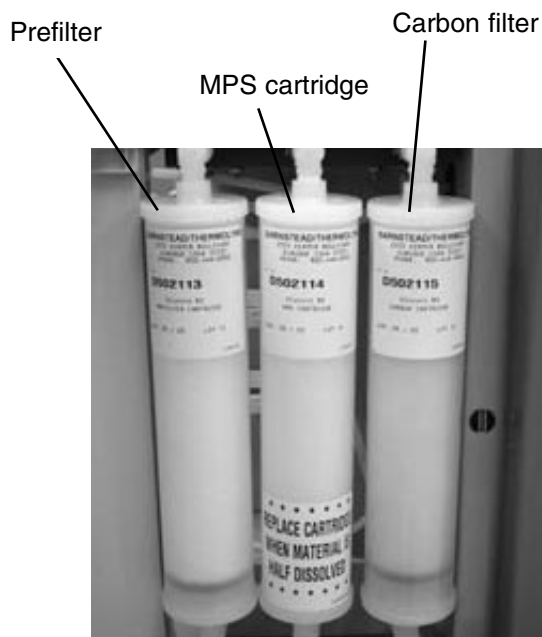

Figure 21: Cartridge Orientation
1. Remove the prefilter (see Fig. 21) by first pressing the upper and lower thumb buttons on the quick disconnect fittings.